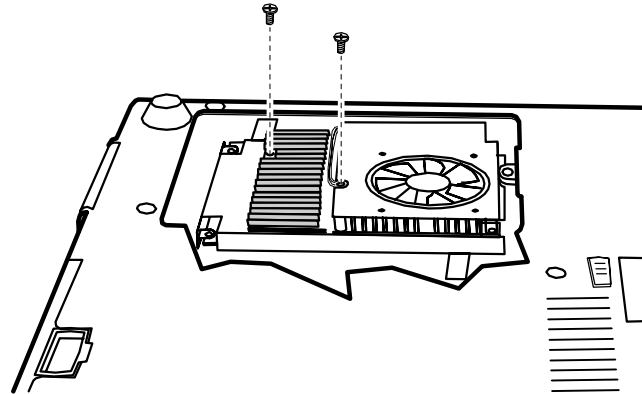

FIGURE 7-12. REMOVING TWO SCREWS FROM THE COOLING FAN ASSEMBLY
4. ATTACH THE ASSEMBLY TO THE CPU BRACKET AND SECURE WITH TWO SCREWS (REFER TO FIGURE 7-12 EARLIER).